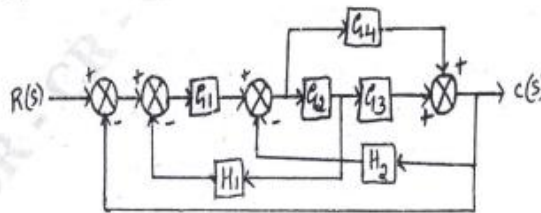

Fig Q3(c) (08 Marks)
- c. Obtain the transfer function for the block diagram, shown in Fig Q3(c), using block diagram reduction technique.